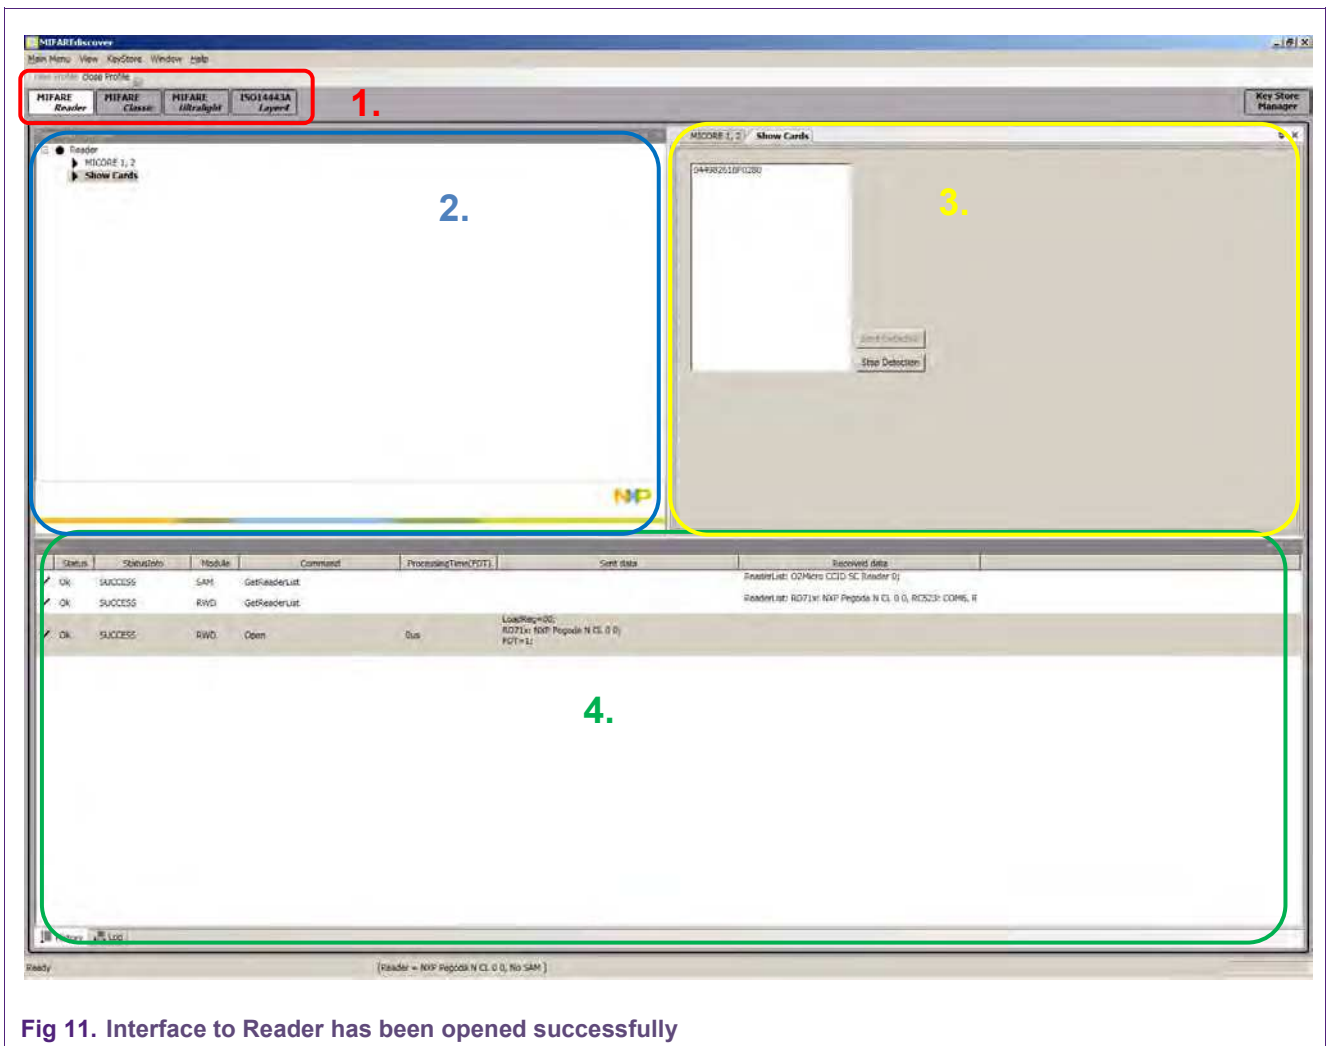

Fig 11. Interface to Reader has been opened successfully
Therefore, the user interface is divided into functional blocks which are shown in different tabs in Fig 11 (1).
At the bottom (4) Fig 11 shows the history field where all the operations are displayed. For a more detailed view on the sent data and received data a switch to the log window is possible. Both fields can be cleared, or can be stored in a text file.